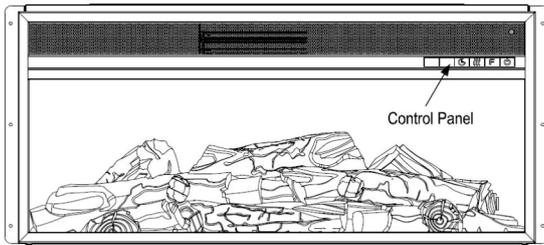

Fig.2
1. Using the control panel, located on the upper right-hand of the fireplace(Fig.2).